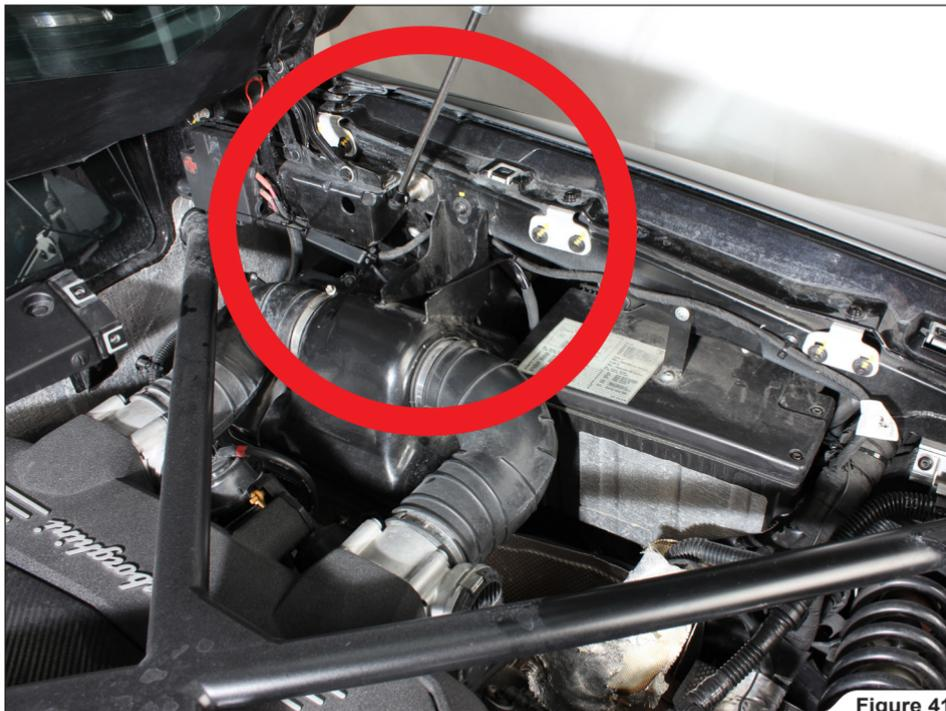

Figure 41
- Installation of Wireless Kit:** direct the Akrapovič wiring harness with transmitter into the engine compartment and attach the transmitter onto the chassis, as shown, using tie wraps from Akrapovič installation kit (**Figure 41, 42**).